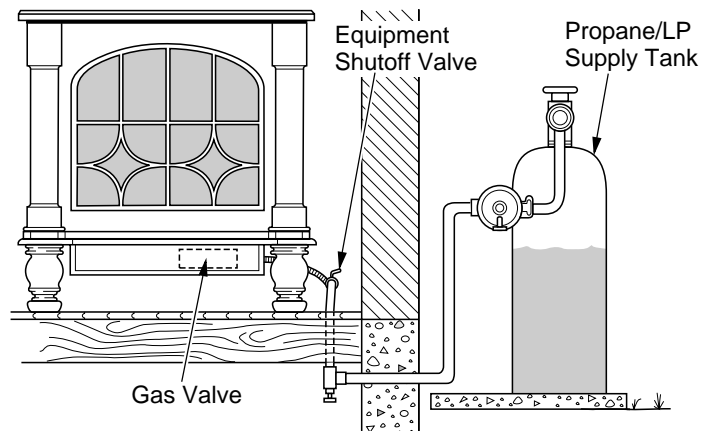
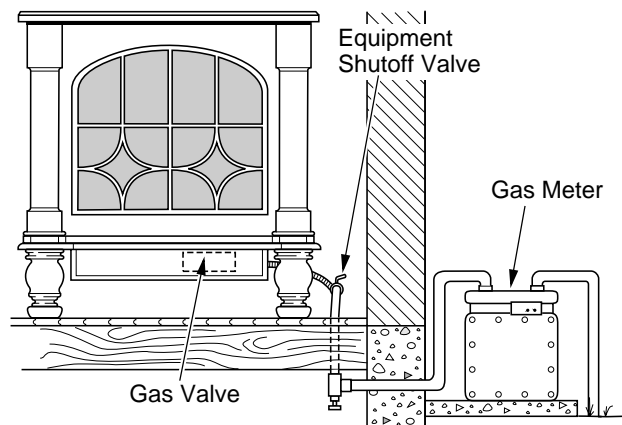

Figure 41 - Checking Gas Joints for Propane/LP Gas Burner System
Figure 42 - Checking Gas Joints for Natural Gas Burner System
3. Check all joints from propane/LP supply tank or gas meter to equipment shutoff valve (see Figure 41 for propane/LP or Figure 42 for natural). Apply a noncorrosive leak test solution to all gas joints. Bubbles forming show a leak. Correct all leaks at once.
4. Check all joints from equipment shutoff valve to thermostat gas valve (see Figure 41 for propane/LP or Figure 42 for natural). Apply a noncorrosive leak test solution to all gas joints. Bubbles forming show a leak. Correct all leaks at once.